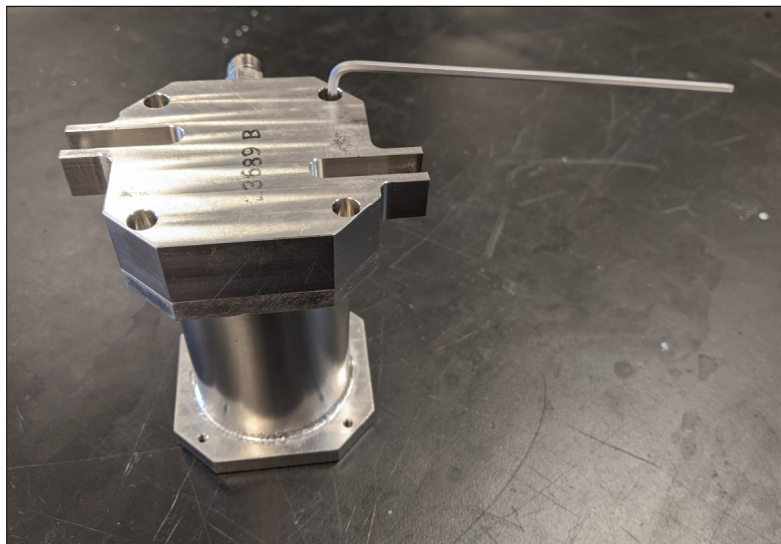

Figure 51: Scrubber Bottom Cover Screw Removal
5. Remove the four screws from the bottom cover as shown (Figure 51).